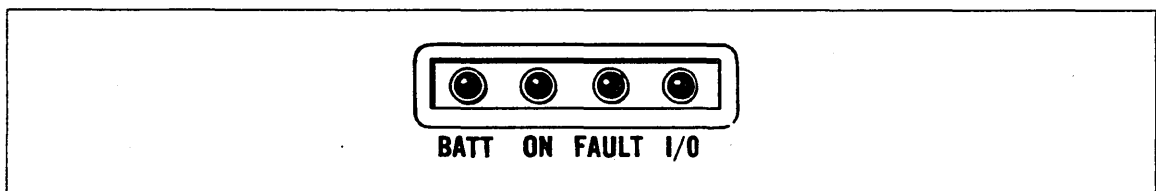

Figure 1-18. Cabinet BATT Indicator
9. With the batteries connected and cabinet power still on, unplug the battery connector from the MPB board. The BATT indicator (shown in figure 1-18) should now light, indicating loss of battery power. If it does not light, refer to the Troubleshooting Guide listed in About This Manual.